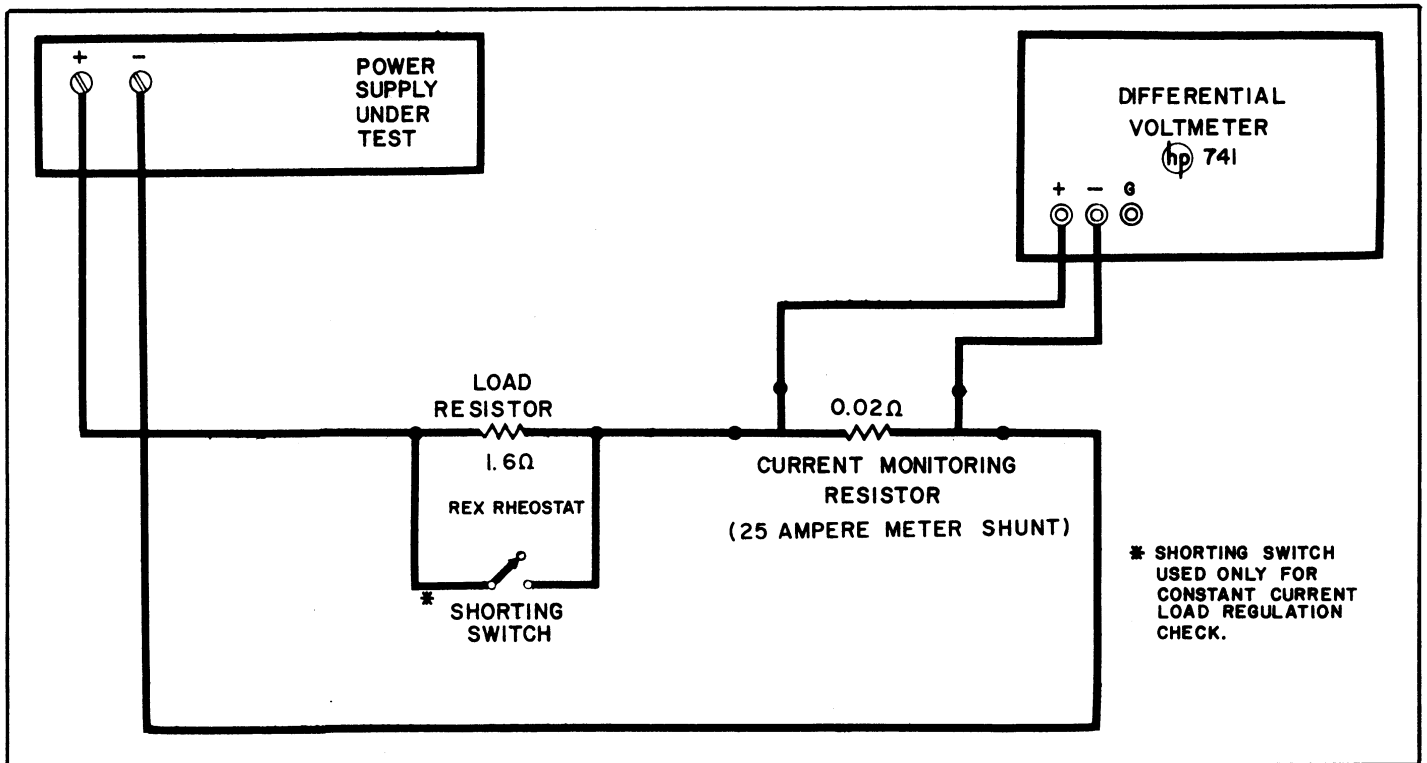

Figure 5-3. Constant Current, Test Setup
- a. Connect test setup shown in Figure 5-3.